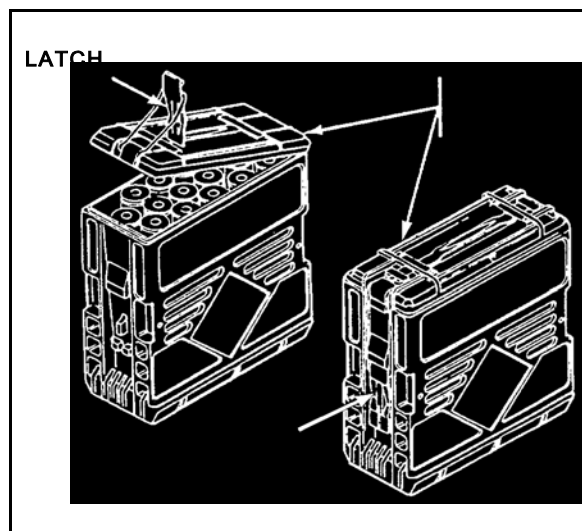

Figure 3. Ammunition box.
c. Place the second ammunition belt in the ammunition box with the rounds pointing down. Close and latch the lid (Figure 3).